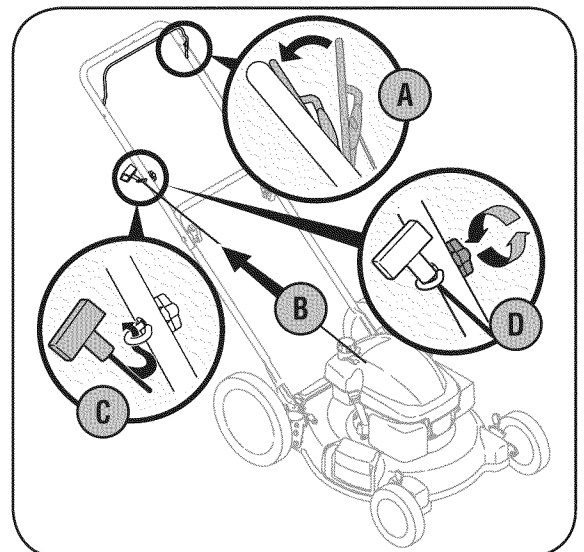

Figure 3-4: Pull recoil starter through rope guide and tighten.
4. The rope guide is attached to the right side of the upper handle. See Figure 3-4. Loosen the wing nut which secures the rope guide.